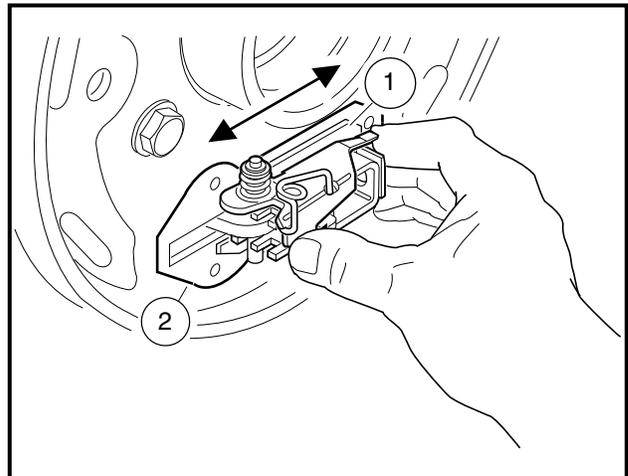

Figure 6-7 Lubricate Slide
3. Lubricate the slide (1) and slide plate (2) with dry moly lubricant (CCI P/N 1012151) on both sides of the backing plate. After lubricating, work the slide back and forth to ensure it slides smoothly and easily (**Figure 6-7, Page 6-3**). Reinstall rubber boot onto backing plate. **See following WARNING.**